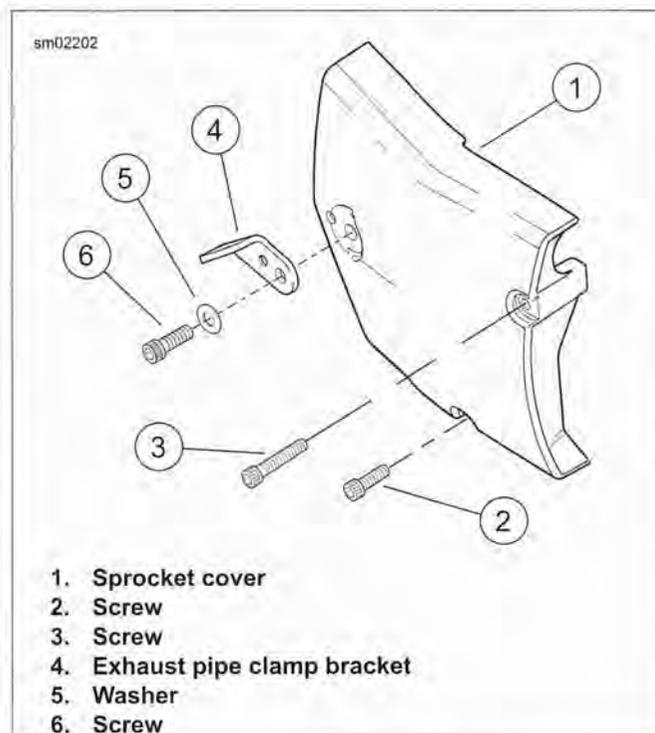

Figure 4-66. Sprocket Cover
- See Figure 4-66. Remove screw (6), washer (5) and exhaust pipe clamp bracket (4). Remove two screws (2, 3). Remove sprocket cover (1).
- See Figure 4-66. Install sprocket cover (1). Secure with two screws (2, 3). Note that long screw goes in top hole, short screw in bottom hole. Do not tighten screws at this time.
- Install exhaust pipe clamp bracket (4), washer (5) and screw (6). Tighten to 30-33 ft-lbs (40.7-44.8 Nm). Now tighten screws (2, 3) to 80-120 **in-lbs** (9.0-13.6 Nm).